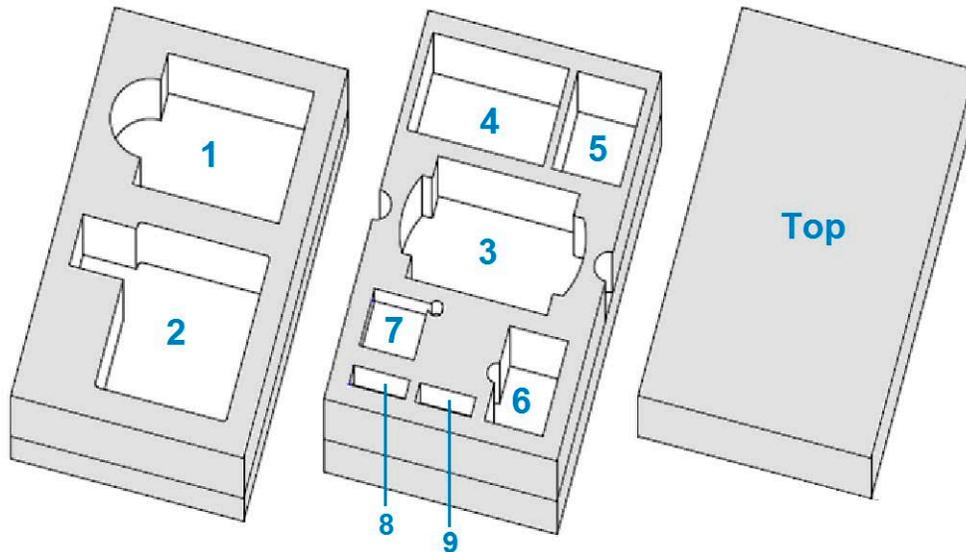

Figure 11-6. Shipping Container - CellX Developer's Kit
Figure 11-6 shows the box and packaging material qualified for shipping that is used for the CellX Developer's Kit. See 'Components in the Developer's Kit' (p. 248) for a list of all parts and accessories in the kit and a key to the locations in the pack material.
When the following procedure is used, refer to Figure 11-6 to correctly put all components in position in the shipping box.
2. Put the **Power Supply** into the cut-out area marked #1 in Figure 11-6.
3. Put the **Fan-Cooled Heat-Sink** into the cut-out area in the ESD foam marked #2 in Figure 11-6.
5. Insert the **CellX laser system** into the silver ESD bag, and tape to close. Place the ESD bag into the cut-out area marked #3 in Figure 11-6.
6. Gather all tools, hardware, the flash drive, and the USB cable and insert them into the pink poly bag. Put this **Accessories Kit** into the cut-out area marked #4 in Figure 11-6.
7. Insert the **Interlock Plug and any Control Boards** into a silver ESD bag, and tape to close. Place the ESD bag into the cut-out area marked #5 in Figure 11-6.
8. Put the **OEM Heat Sink** into the cut-out area marked #6 in Figure 11-6.
9. Insert the **Translation Stage Accessory** into a silver ESD bag and tape to close. Put the ESD bag into the cut-out area marked #7 in Figure 11-6.
12. Put these ESD bags into either cut-out area marked #8 or #9 in Figure 11-6.